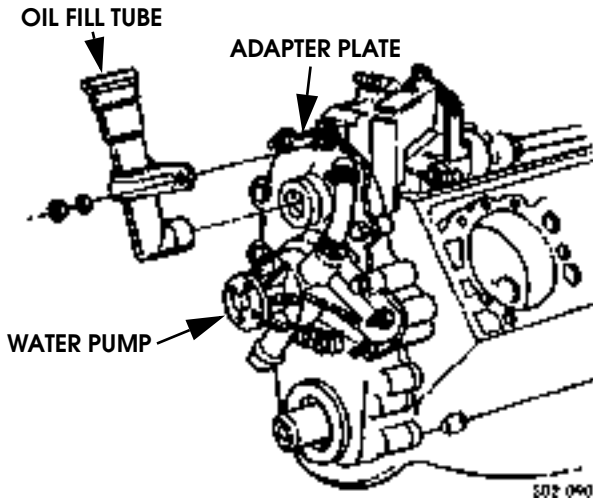

Figure 2-83: Oil Fill Tube Removal
1. Remove oil fill tube from adapter plate (Figure 2-83).